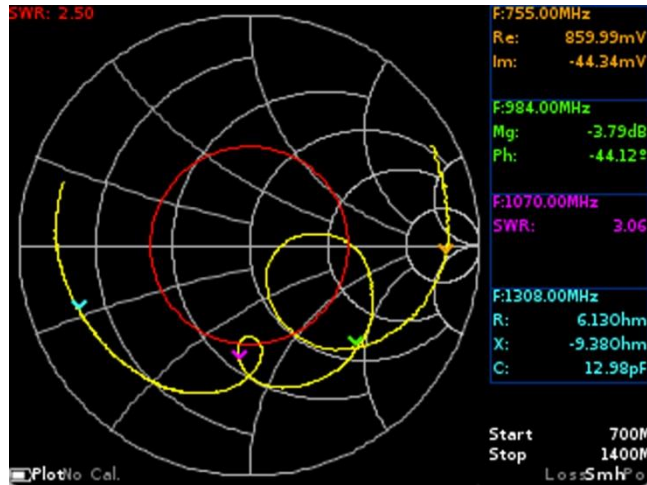

Figure 10.1 – Volpert-Smith chart on the device screen
10.1.2. The grid of the chart corresponds to the impedance 50 Ohm (Figure 10.1). On the screen of the reflectometer it is designated as **Smh**. Enabling or disabling the display of this chart on the screen is made as indicated in par. 9.3.
*In our example, in Figure 10.1, a GSM antenna with an operating frequency of 900 MHz is being tested. The chart includes four markers and the display of the VSWR limit line with a value of 2.5. Measurement values at a fixed marker frequency in specified units are displayed to the right of the chart.*